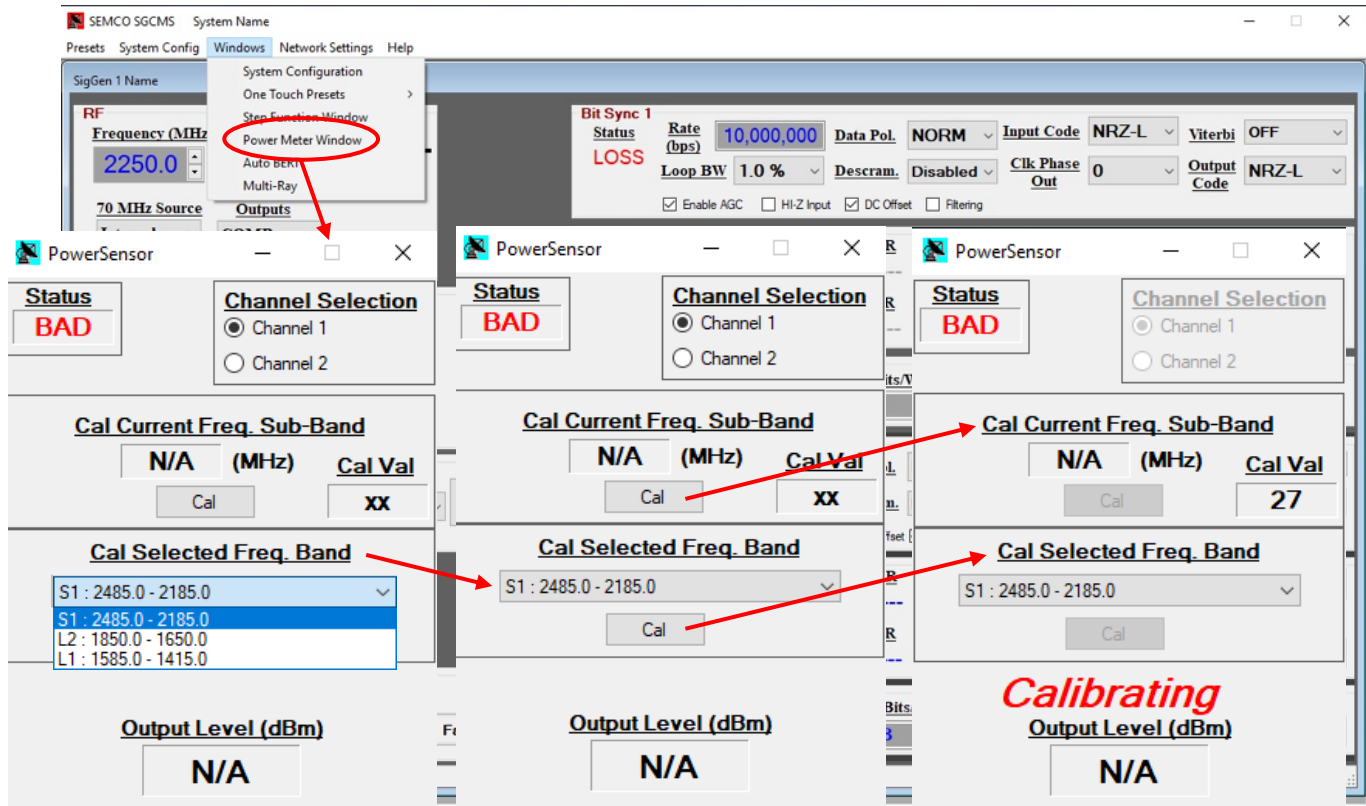

Figure 4-88
Figure 4-88 shows the pull-down menu selection for the RF Power Meter Calibration Option when installed. This option provides the ability to closely calibrate the simulator’s RF outputs when more precise RF signal levels are desired. The **Power Meter Window** is selected as shown, and an RF jumper cable is connected from the **CH 1 or CH 2 RF Out** “N” connector (J1 or J2) to the **CAL IN** “N” connector (J14) as shown in Figure 4-89.
Referring to Figure 4-88, the **PowerSensor** window lets the user select the simulator’s RF Out to be calibrated (**Channel Selection**), and then either the specific frequency that the simulator is currently set (**Cal Current Freq. Sub-Band**) or a selected Frequency Range (**Cal Selected Frequency Band**).
The **Status** box indicates that the RF jumper cable has been installed and the RF Power Sensor is functioning properly when displaying **OK**. A **Bad** status indication indicates that the power sensor option is malfunctioning or is not installed (which is the case in the Figure 4-88 example). Each PowerSensor setting is described in the following paragraphs:
- B. **Cal Current Sub-Freq. Sub-Band** - This setting is used for calibrating the RF output at a specific frequency. The frequency of interest is entered into the **Cal Current Freq. Sub-Band** window. Clicking on the **Cal** box begins the calibrating process as shown in Figure 4-88, with the calibrated RF output displayed in the **Output Level (dBm)** window.
- C. **Cal Selected Frequency Band** - This setting is used for calibrating the RF Output power across a selected frequency band. The user clicks on the (▼) icon to the right and below the **Cal Selected Freq. Band** to access a pull-down menu of all frequency bands installed in the simulator. Figure 4-88 shows this pull-down menu.
Selecting the desired Frequency Band and then clicking on the **Cal** button in the **Cal Selected Freq. Band** box begins the automatic calibration routine as shown in Figure 4-88. The RF power output is then calibrated at a 0 dBm reference point across the entire Frequency Band that has been selected.